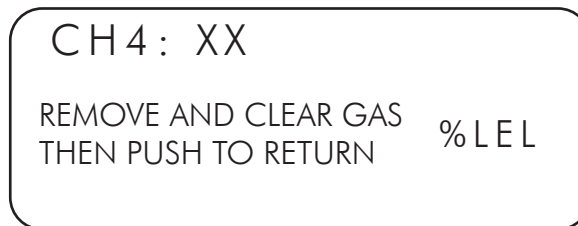

Figure 40
8. Remove calibration cup and allow gas to clear, as shown in Figure 40.